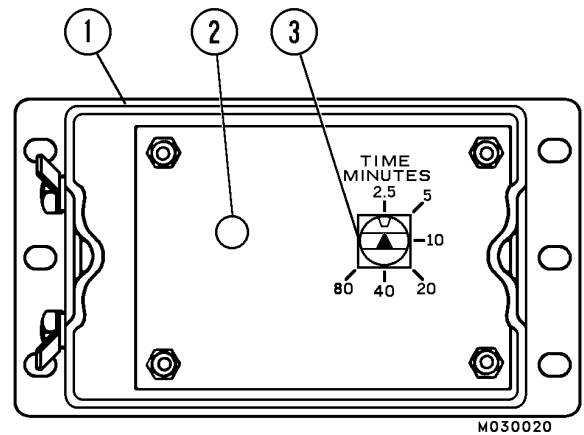

FIGURE 42-7. TIMER (TOP COVER REMOVED)
2. Adjust timer to the minimum time interval indicated on the timer faceplate. For example, set switch (3, Figure 42-7) for 2.5 minute interval using.
The timer is factory set for a nominal 2.5 minute (off time) interval. Dwell time is approximately 1 minute, 15 seconds. A longer interval (off time) is obtained by turning the Selector knob (3, Figure 42-7) to the desired position.